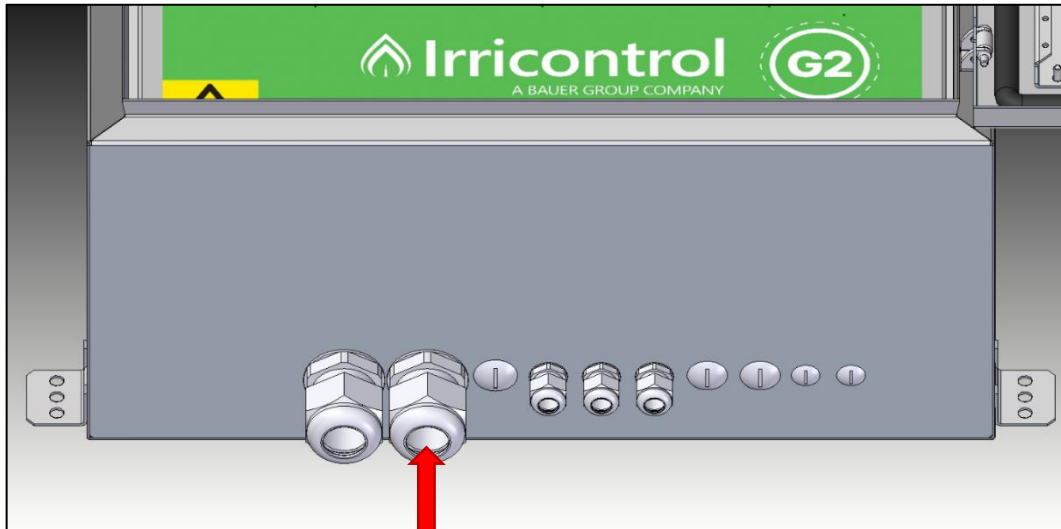

Figure 11 - Cable gland (PG) for the multiconductor cables.
- A. Pass the multiconductor cables through the PG29 cable gland, shown in Figure 11.